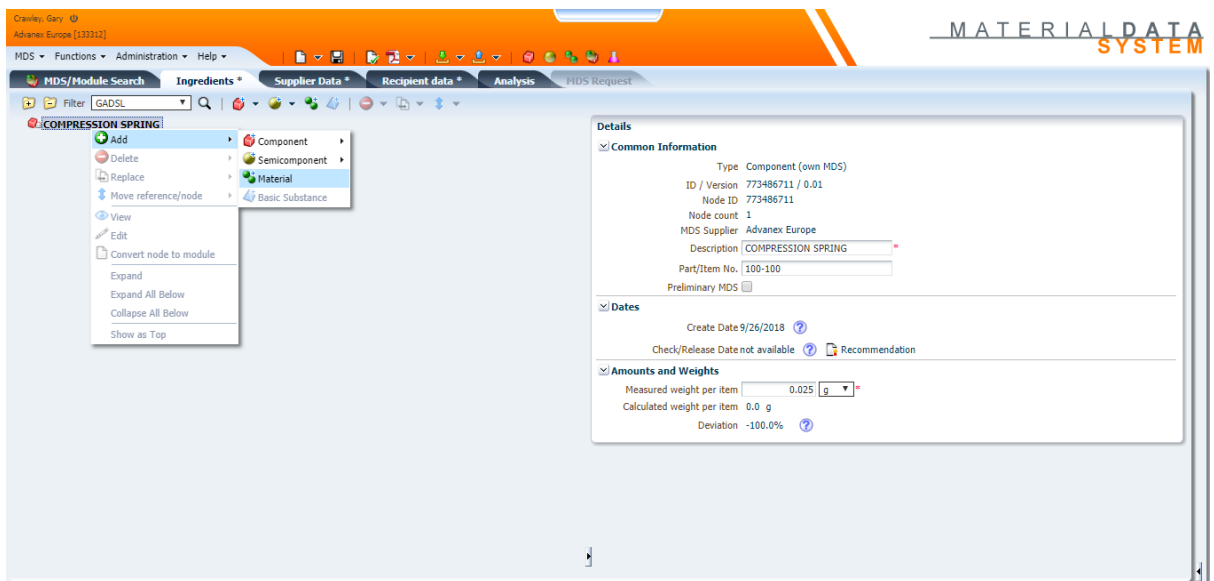

Fig.3
5. Right click name of component and select Add > Material. (Fig3)